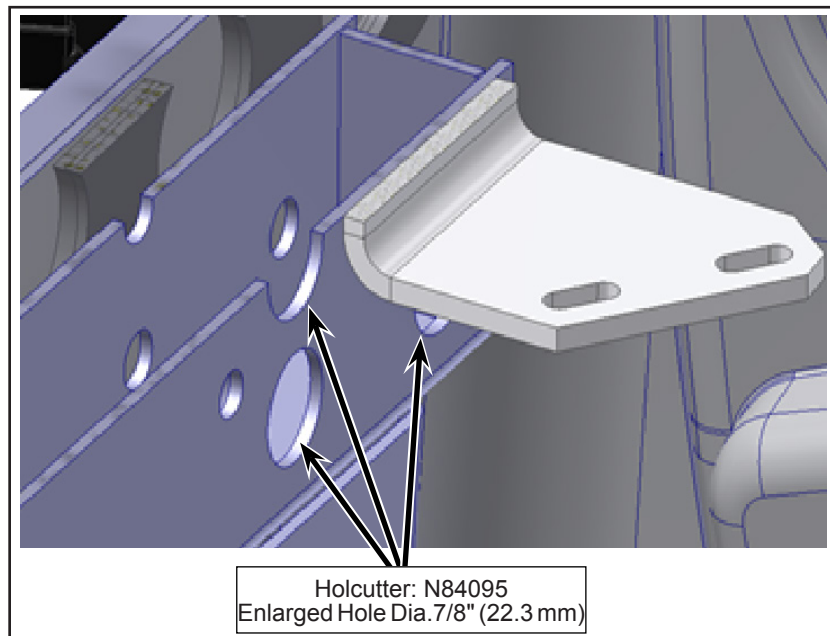

Figure 15 - Typical View of Enlarged Holes on the First Wall Structure
- 1.17. Enlarge the existing holes (3x) 1/4" (6.35 mm) to 7/8" (22.3 mm) using carbide holcutter N84095 only on the first wall of the structure (see Figure 15).